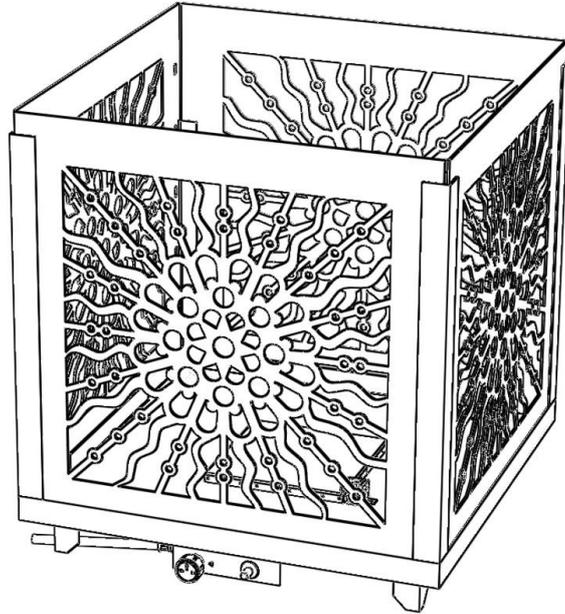

Figure 3.
- Place the next side panels so that all panels are interlocked with the base and the other side panels as shown in Figure 3.